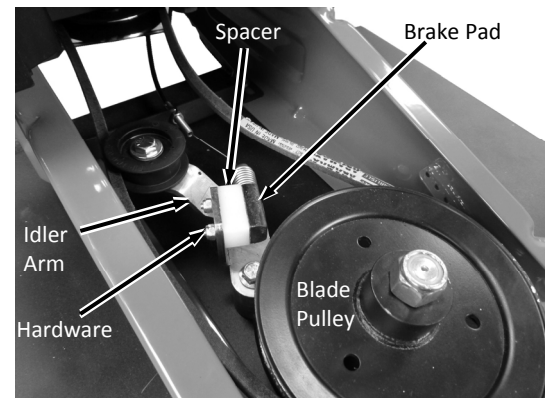

Figure 29
4. Remove the Brake Pad and Spacer using a 3/8" Wrench for the Nuts and 1/8" Allen Wrench for the Bolts (Figure 29).